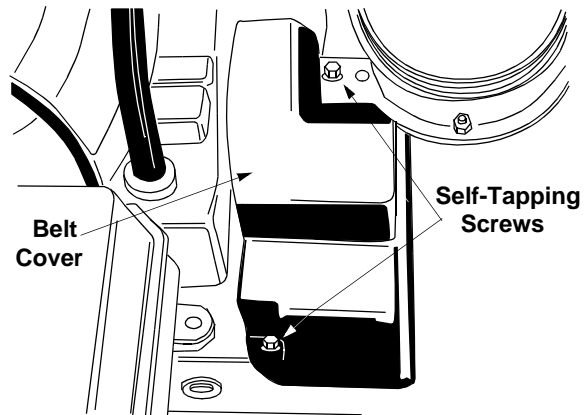

Figure 21
- Remove the plastic belt cover on the front of the engine by removing the two self-tapping screws. See Figure 21.